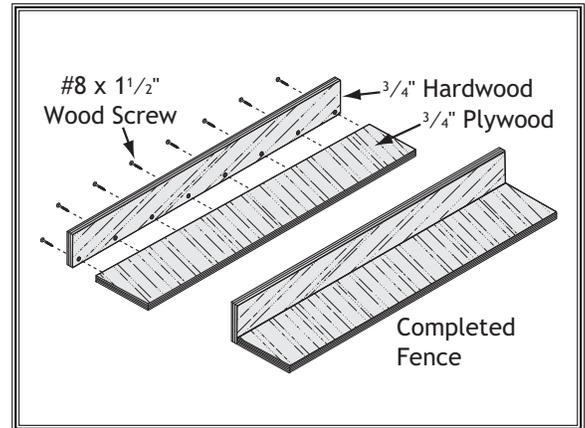

Figure 91. Location of pilot holes.
2. Pre-drill and countersink eight pilot holes $\frac{3}{8}$ " from bottom of 3" wide board, then secure boards together with (8) #8 x $1\frac{1}{2}$ " wood screws, as shown in **Figure 91**.